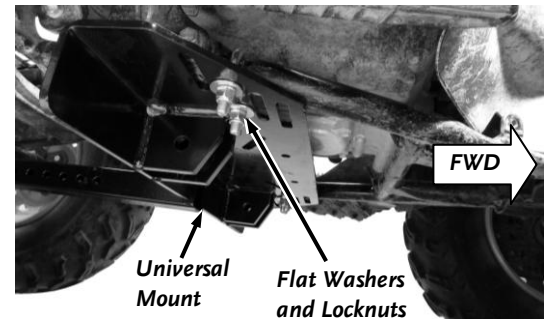

Figure 11
7. Secure the Universal Mount to each U-bolt or Bolt with a Flat Washer, Lock Washer and two Jam Nuts using a 9/16" Wrench for each Threaded portion of the U-Bolts, or Bolts (**Figure 11**).